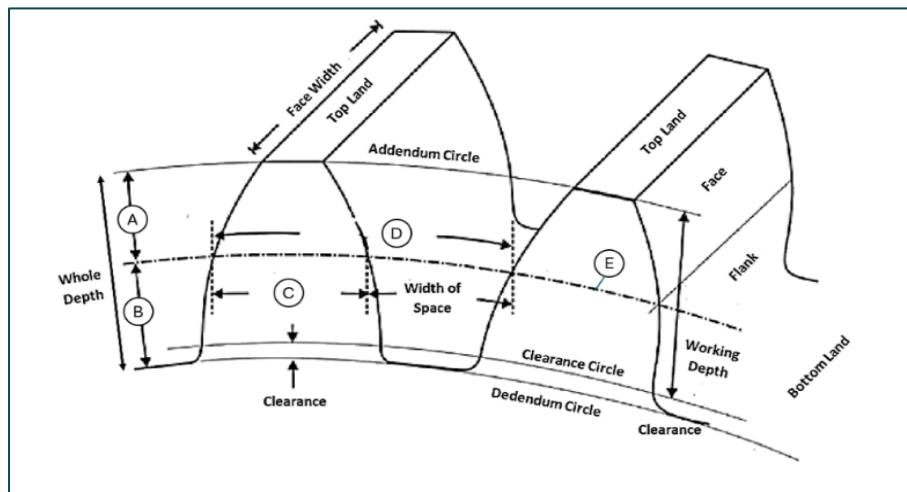

Figure 3a / Rajah 3a
- (a) Name the parts labeled **A**, **B**, **C**, **D**, and **E** of the spur gear shown in **Figure 3a** below: